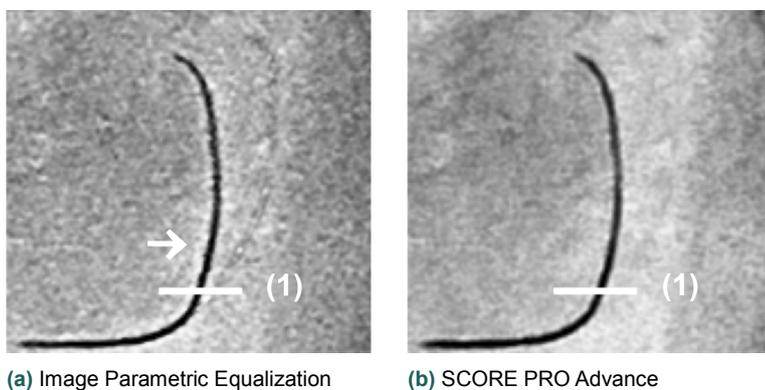
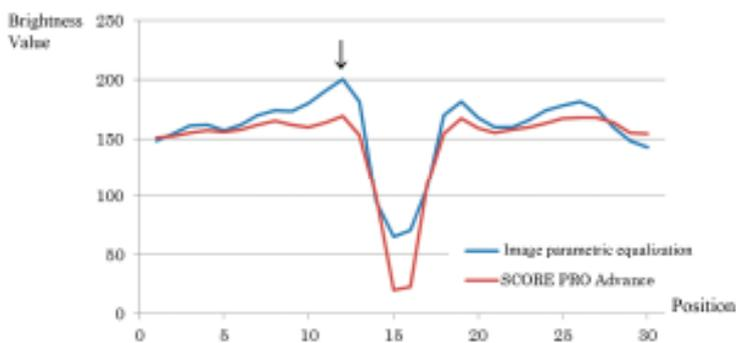

Fig. 3 Example of Edge Enhancement
Fig. 4 Brightness Profile on Line (1) in Fig. 3
Fig. 3 shows a comparison of guidewire fluoroscopy images edge enhanced with image parametric
equalization and SCORE PRO Advance. **Fig. 4** shows the brightness profile at guidewire position (1) indicated in **Fig. 3**. Image parametric equalization not only enhances noise components, but also causes white artifacts, referred to as overshooting, in edge enhanced areas (indicated by an arrow in
Fig. 3 (a) and 4). However, because SCORE PRO Advance identifies target objects before enhancing, it minimizes any artifacts that normally occur with multiple image parametric equalization, which allows more natural and intensive edge enhancement (**Fig. 3 (b)** and red line in **Fig. 4**).